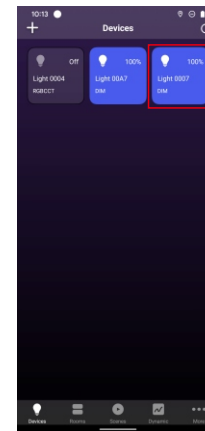
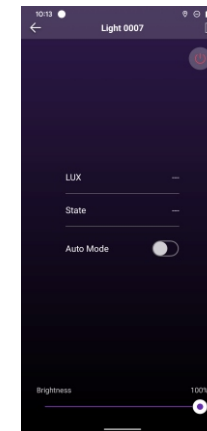
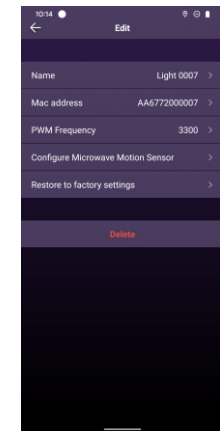
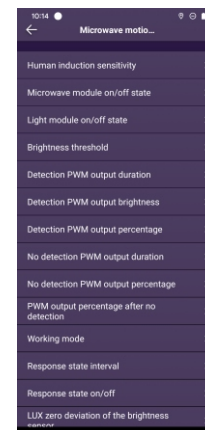

Figure 4
Figure 5
Figure 6
Figure 7
Note: since the sensor has 0-10V dimming feature, it is discovered and listed on the “**Devices**” page as a light device (as shown in **Figure 4**). The sensor parameters can be configured at the configuration page of the device.
1. Press and hold the device icon on the “Devices” page to enter the status and control interface of the device (as shown in **Figure 4 & Figure 5**). The “**On/Off button**” at upper right side is to turn on/off the connected 0-10 dimmable light. “**LUX**” means the current illuminance value that the light sensor detected. “**State**” means the motion sensor state, if motion is being detected, the state will show “**Detection**”, if no motion is being detected, the state will show “**No Detection**”. “**Auto Mode**” can be enabled or disabled, factory default is “disabled”. “**Brightness**” slider at the bottom is used to dim the connected 0-10V dimmable light (as shown in **Figure 5**).
2. Press and hold “**[Edit]**” button at upper right corner of the state and control interface of the device to enter configuration interface (as shown in **Figure 5 & Figure 6**).
3. On the device configuration interface, we can configure parameters. “**Name**” is the device name which can be edited as you would like. “**Mac address**” can only be read and can not be edited. “**PWM frequency**” is to adjust the output PWM dimming frequency of the 0-10V output, higher frequency ensures more smooth dimming and less flicker. “**Configure Microwave Motion Sensor**” is to configure the motion sensor and light sensor parameters (as shown in **Figure 6**).
4. Tap “**Configure Microwave Motion Sensor**” to enter motion sensor and light sensor attributes configuration interface. (as shown in **Figure 6 & Figure 7**).